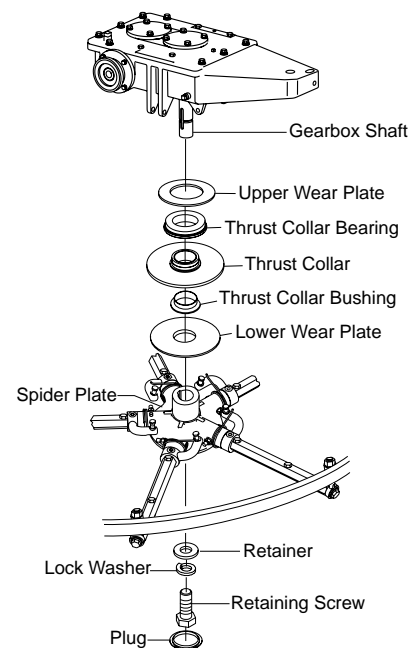

Figure 33. Spider Removal
1. Locate the cone point square head set screw (Figure 33) and attached jam nut found on the side of the spider assembly.